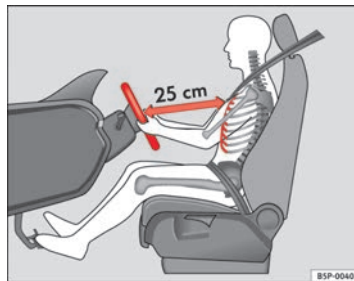

Fig. 134 Proper sitting position for driver
- Adjust the steering wheel until the correct position is set ⇒ Fig. 134.
- Adjust the driver seat or steering wheel so that there is a distance of at least 25 cm between the steering wheel and your chest ⇒ Fig. 134. If you fail to observe the minimum distance, the airbag will not protect you. Risk of fatal injury.